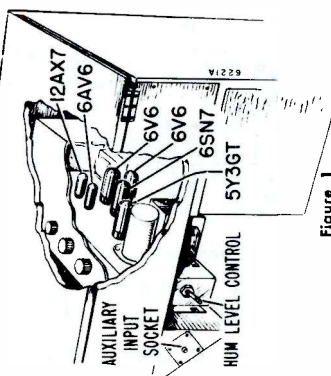

Figure 1
3. Find **Hum Level** control shaft which extends from rear of chassis (see figure 1). Vary control for minimum hum in output. (Setting R39 for minimum hum feeds to control grid of V1A an out-of-phase 60 cycle voltage of an amplitude sufficient to cancel out any stray 60 cycle hum picked up by amplifier.)